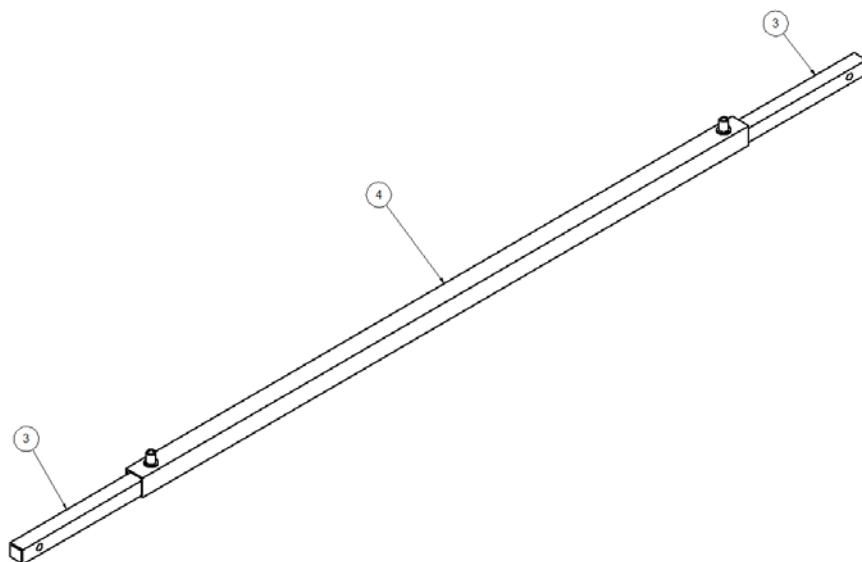

Figure 5: Positioning of the arm and the driving bar axle with the rest of the assembly.
After installing the safety gear (1) on the fame, introduce the arms (3) inside the driving bar axle (4), as shown in Figure 5